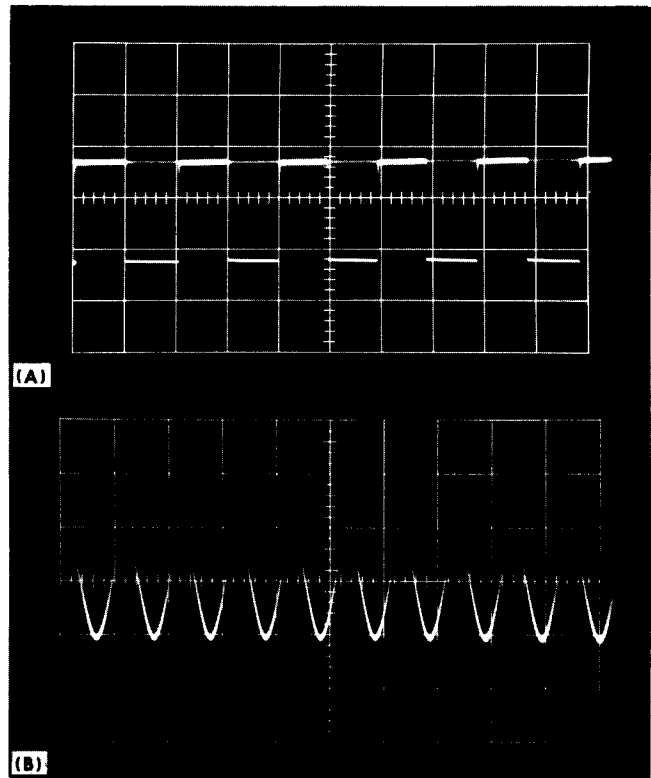

Fig. 5-13. Z axis modulation (A) Grid modulation. (B) Cathode modulation.
f. Check—Z axis modulation. The negative portion of the calibrator signal must show noticeable decrease in intensity level (see Fig. 5-13).
e. Check—Intensity modulation must be visible on the display with the upper portion of the sine wave dimmed and the lower portion intensified. The INTENSITY control setting may require adjustment to observe the modulation. Fig. 5-13.